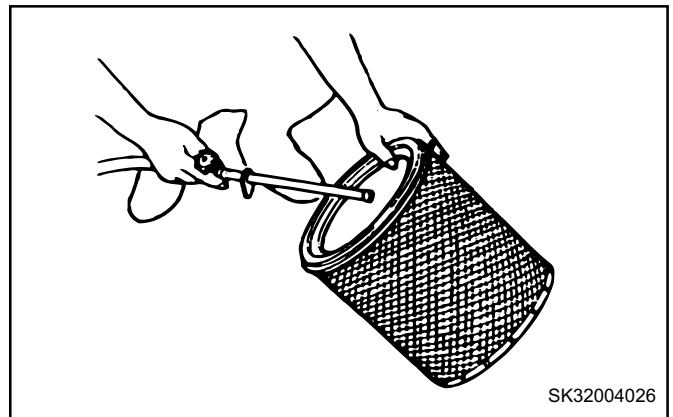

FIGURE 4.14B
5. To clean the outer element, blow compressed air {less than 2.8 bar (40 psi)} up and down along the folds of the filter element interior to remove clogged dust or other contaminants. See Figure 4.14B.